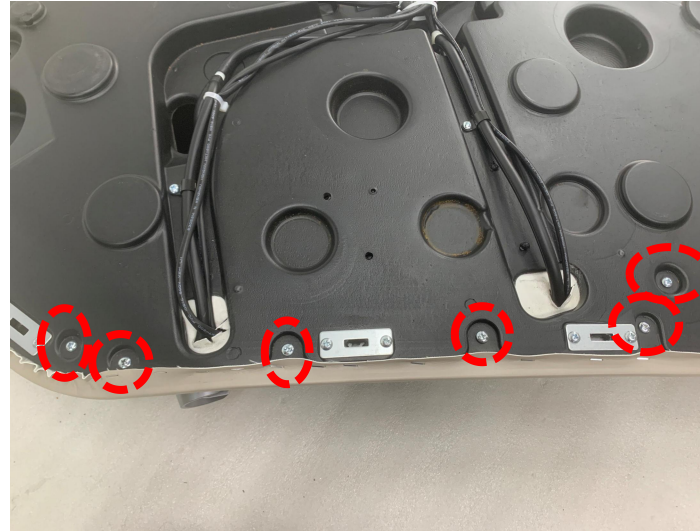

Figure 2
2. Remove 6 armrest fixing screws (Figure 2)